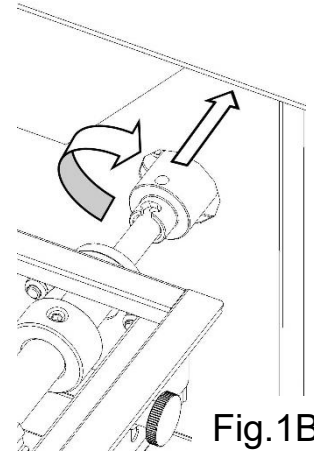

Fig.1B
5. Slide the joint towards the control panel freeing it from the conveyor belt drive shaft (see Fig.1B paragraph 8.2.1).
4. Rotate the wire mesh conveyor until the drive shaft pivot corresponds with the transmission joint notch. Slide the joint towards the control panel freeing it from the conveyor belt drive shaft (Fig.1B).